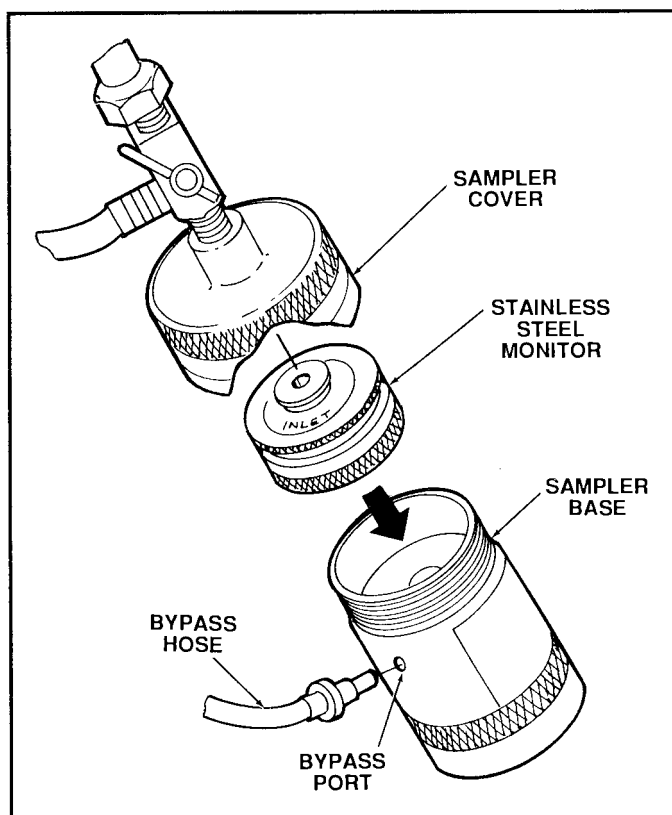

Figure 2.30 Inserting the Monitor into Sampler Base
- a. Unscrew the sampler cover and insert the stainless steel monitor containing the free-water test pad (inlet side facing upstream). Screw the sampler case into the sampler cover (to a snug hand-tightness). See Figure 2.30.